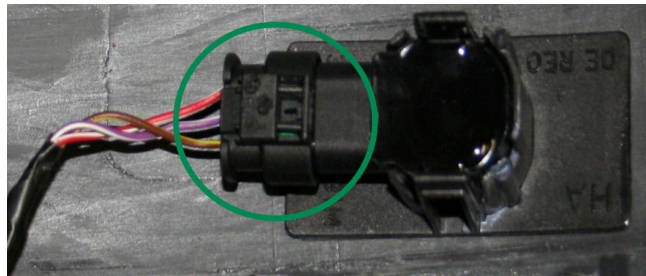

Figure 14. A correctly installed parking aid sensor connector.
- 10 Check the connectors on the parking sensors and the socket box for correct installation (Figures 14 - 15). If the connectors are not installed properly, reinstall.